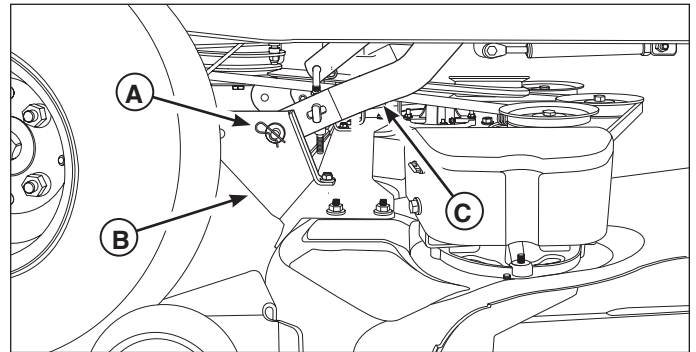

Figure 18. Rear Deck Lift Components (Right side shown, left side same)
4. Remove the hairpin clips and washers (A, Figure 18) securing the rear mower deck brackets (B) to the rear lift arms (C), and pull the arms out from the holes in the brackets. Retain all removed hardware.
5. Insert the rear lift arms (C, Figure 18) into the front holes in the rear mower deck brackets (B), and secure each with a washer and hairpin clip (A).